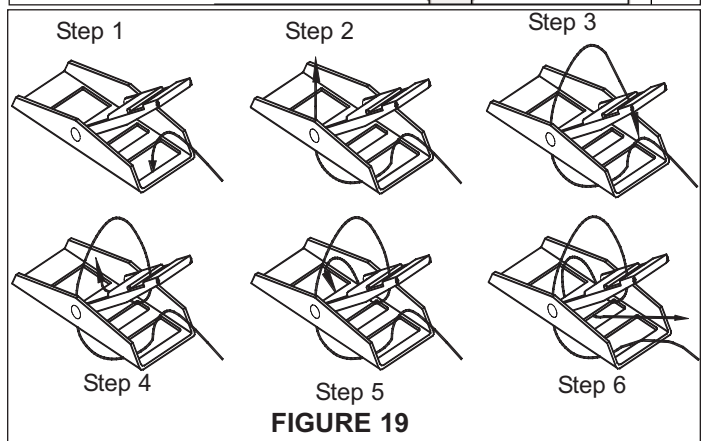

FIGURE 19
- Weave the belting through the trolley tension belt buckle and secure the buckle, **Figure 19**.